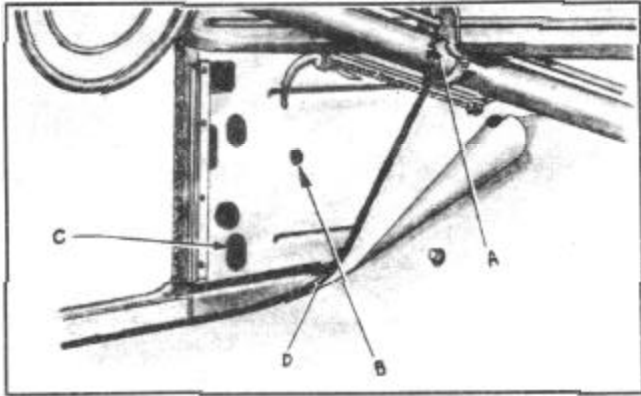

FIGURE 135
4. Starting at the seam above the toeboard riser to top of cowl panel indicated by (A), Figure 135, lay a bead of Flexseal sealer or Auto Body Deadener down to the frame along joint of frame and floor panel to seat riser panel; also along top of frame at junction of cowl side panel to the front pillar post at (ID). Care must be taken that joints are completely covered at both right and left sides of body.